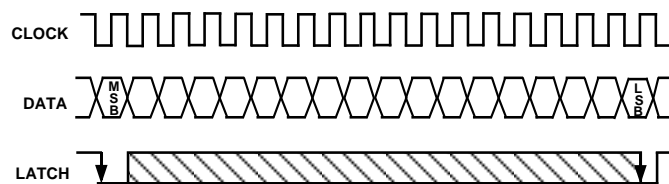
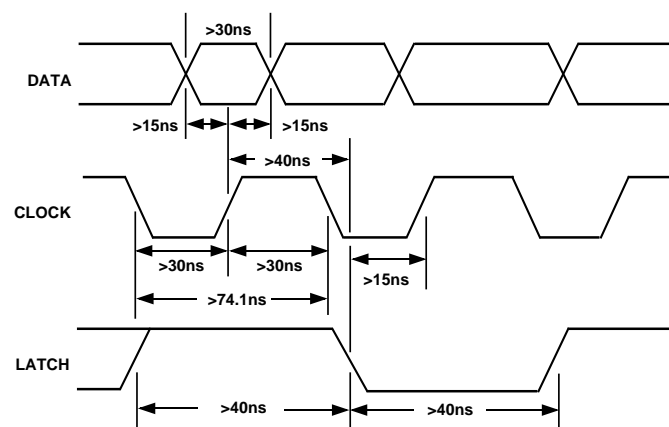

Figure 7. Signal Requirements for AD1861
Figure 8. Timing Relationships of AD1861 Input Signals
Data is transmitted to the AD1861 in a bit stream composed of 18-bit words with a serial, MSB first format. Three signals must be present to achieve proper operation. They are the Data, Clock and Latch Enable (LE) signals. Input data bits are clocked into the input register on the rising edge of the Clock signal. The LSB is clocked in on the 18th clock pulse. When all data bits are loaded, a low-going Latch Enable pulse updates the DAC input. Figure 7 illustrates the general signal requirements for data transfer to the AD1861.
Figure 8 illustrates the specific timing requirements that must be met in order for the data transfer to be accomplished properly. The input pins of the AD1861 are both TTL and 5 V CMOS compatible. The input requirements illustrated in Figures 7 and 8 are compatible with data outputs provided by popular DSP filter chips used in digital audio playback systems. The AD1861 input clock can run at a 13.5 MHz rate. This clock rate will allow data transfer rates for 2 $\times$ , 4 $\times$  or 8 $\times$  or 16 $\times$  oversampling reconstructions.